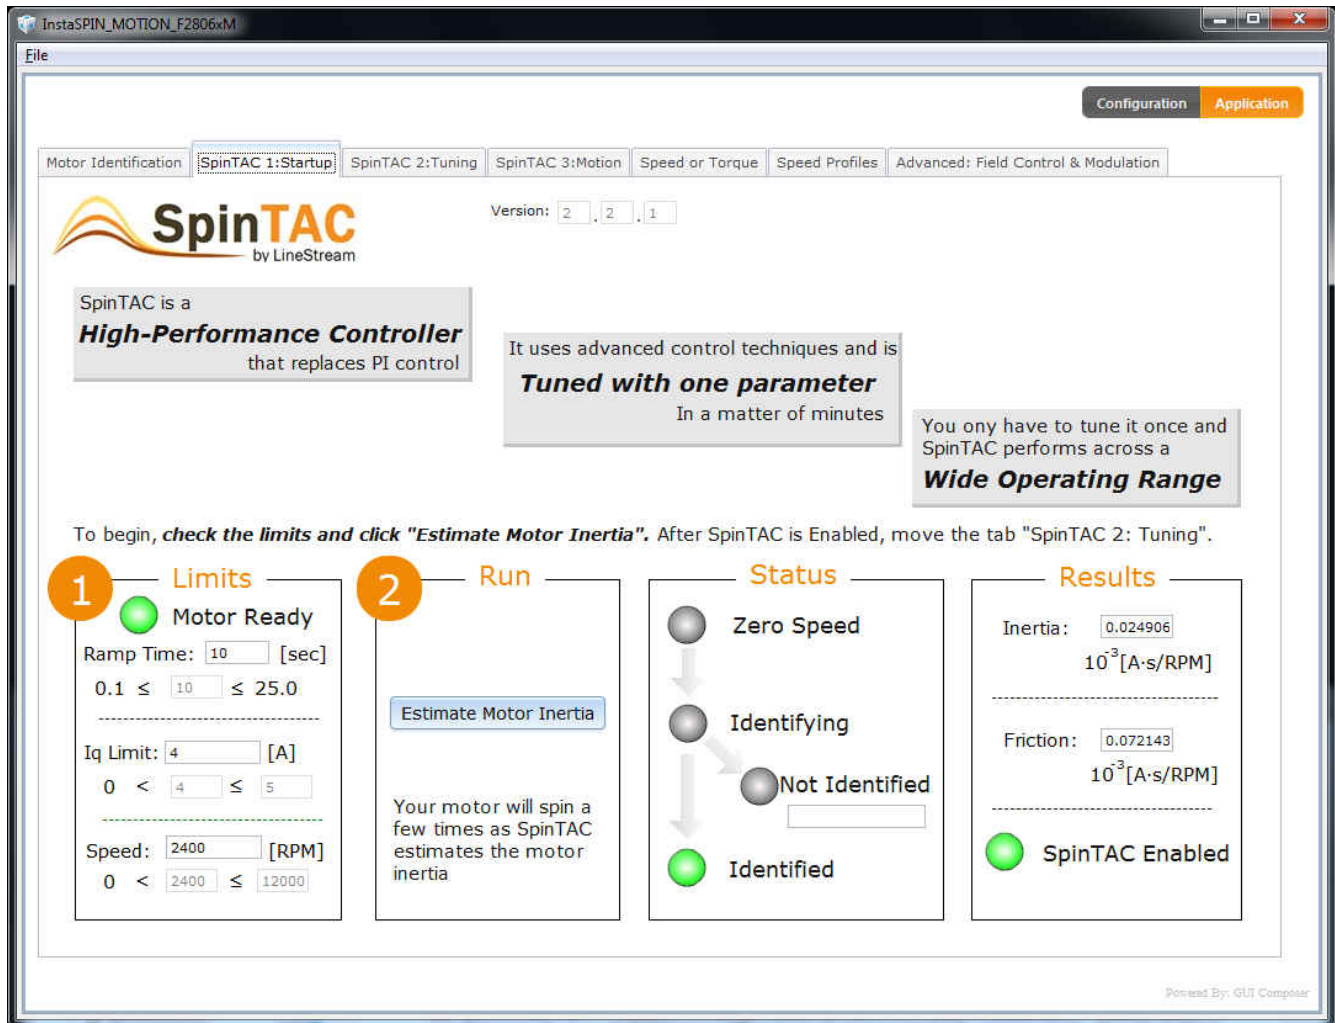

Figure 2-3. InstaSPIN-MOTION™ GUI Using SpinTAC 1:Startup Tab
3. Identify system inertia (Figure 2-3).